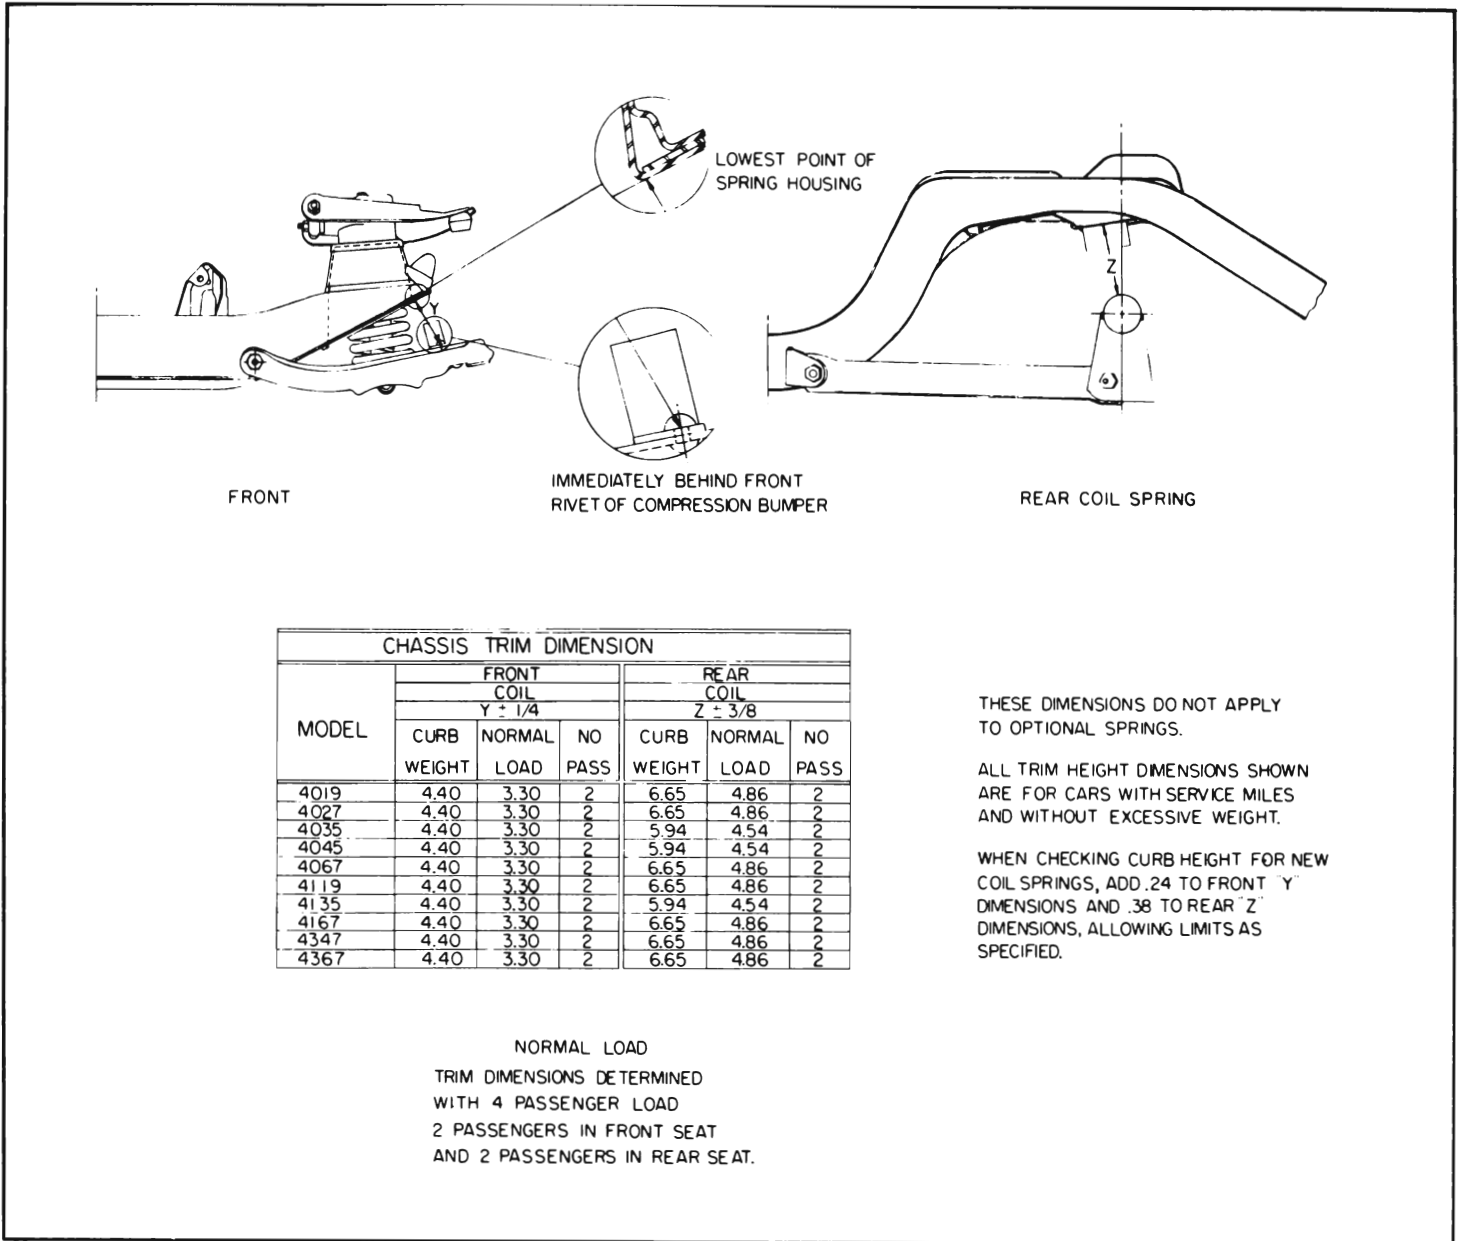

Figure 7-19—Trim Height Chart
1. Front Springs. On a car having service miles, the front spring trim dimension "Y" should be as shown in Figure 7-19 chart.
2. Rear Springs. On a car having service miles, the rear spring trim dimensions should be as shown in Figure 7-19 chart.